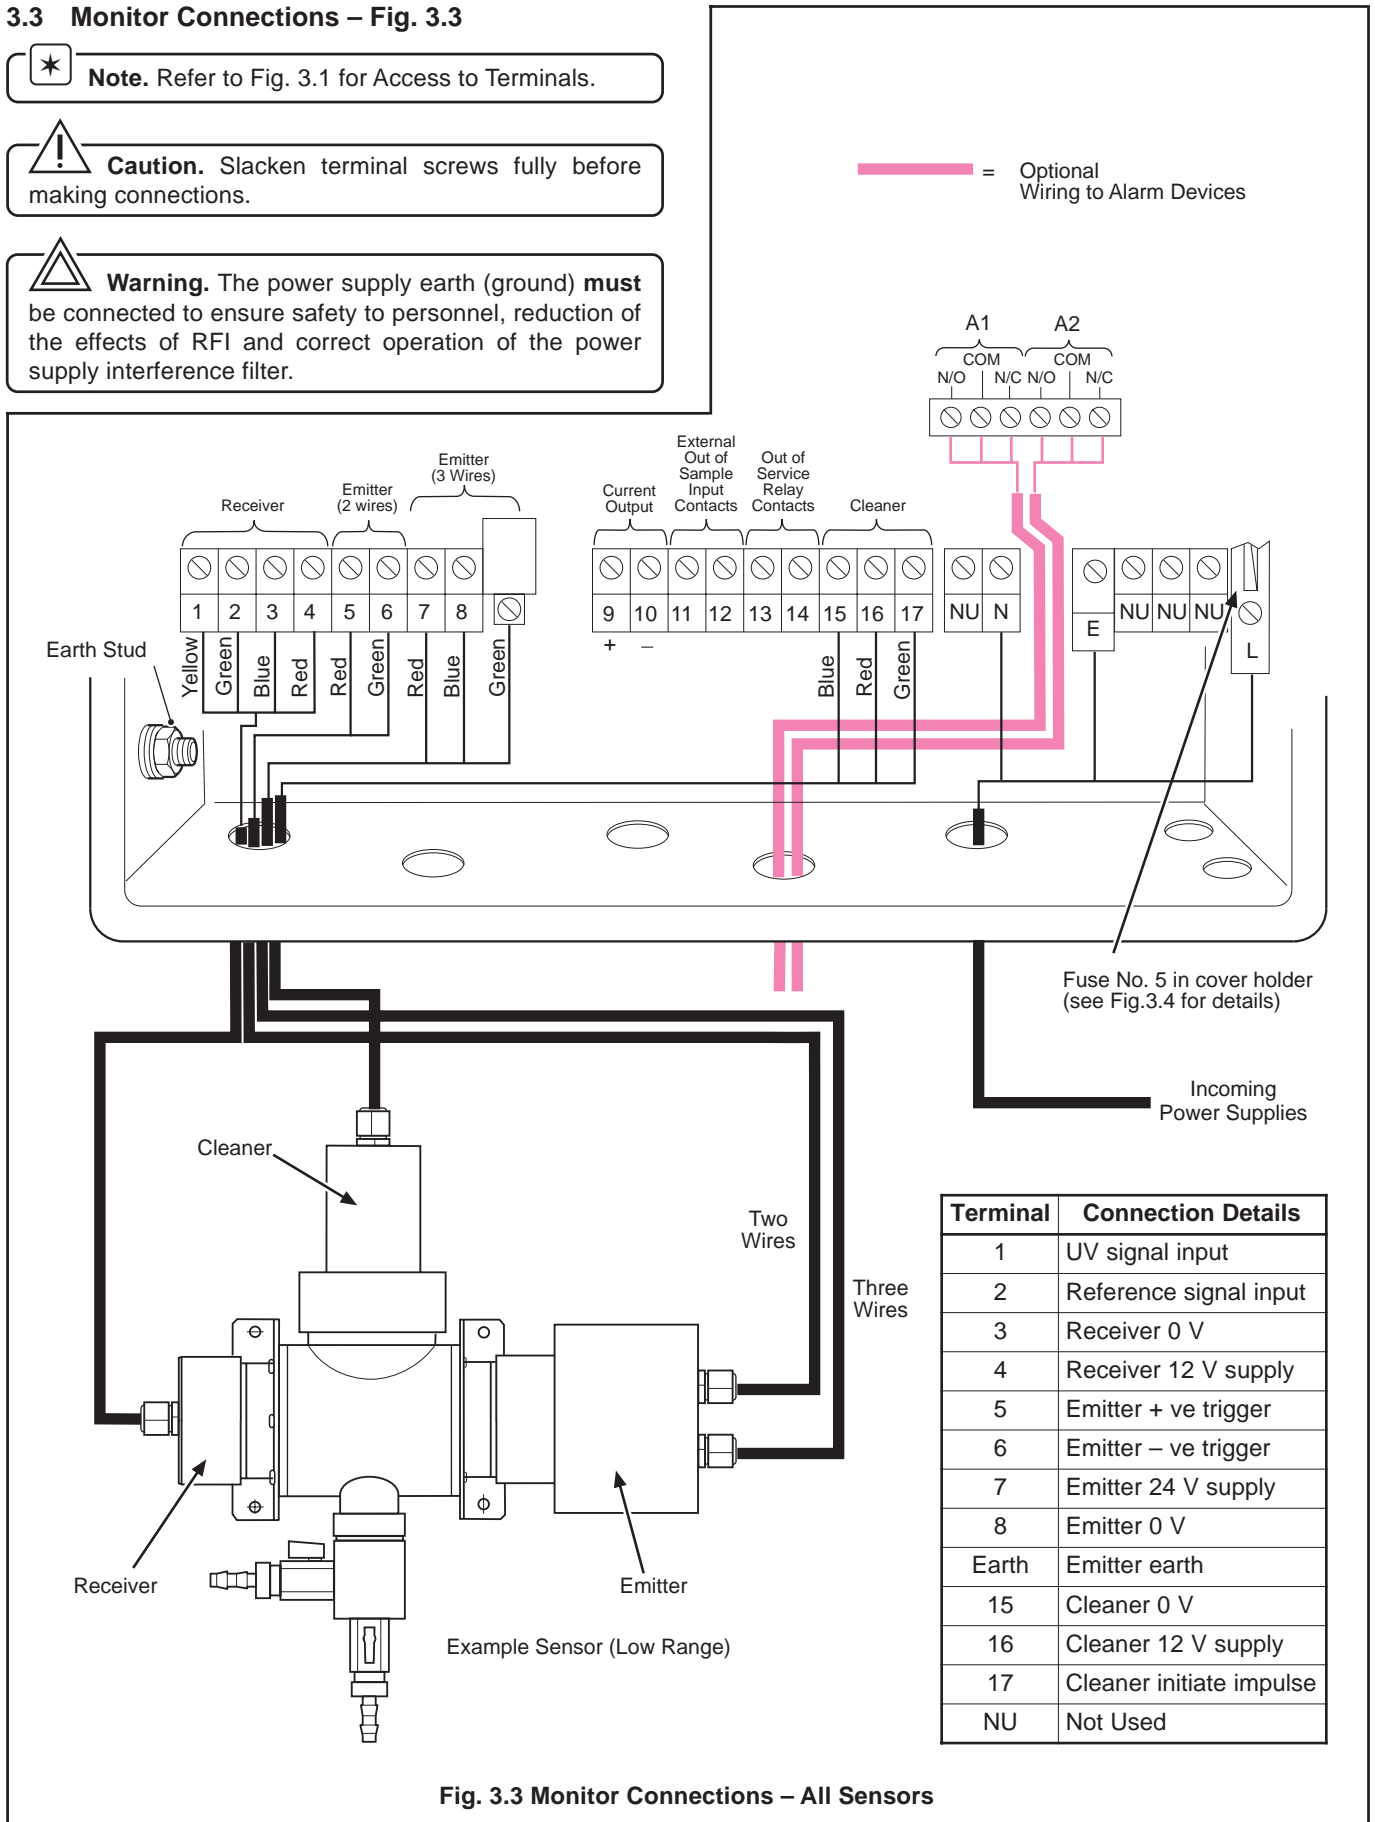

Fig. 3.3 Monitor Connections – All Sensors
- **Earthing (grounding)** – stud terminal(s) is fitted to the transmitter case for bus-bar earth (ground) connection – see Fig. 3.3.
3.3 Monitor Connections – Fig. 3.3
Up to two alarm relays can be provided with connections to the single set of contacts for each alarm – see Fig. 3.3. Alarms can be connected using suitable signal cable.